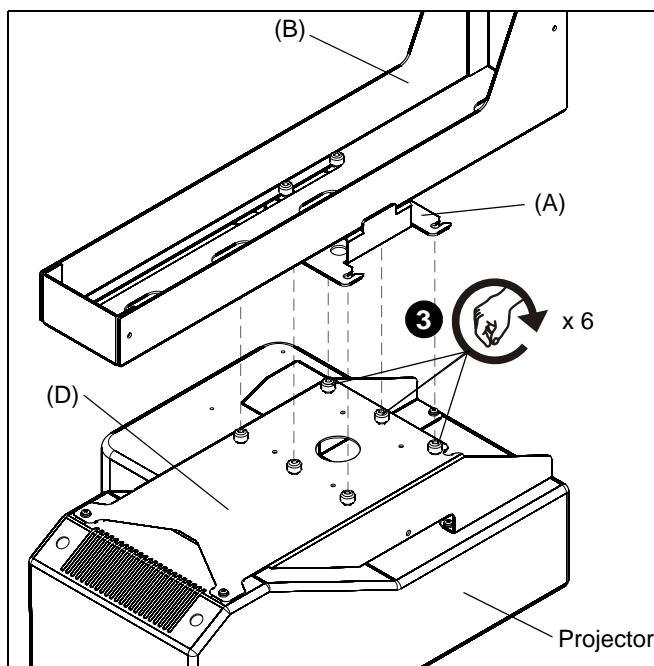

Figure 3
2. Attach projector with SLB interface bracket to the wall mount adjustment bracket (A).
3. Tighten thumb nuts. (See Figure 3)